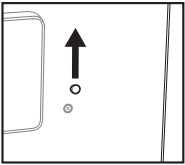

Figure 1
1. Remove the override key cover (Figure 1).